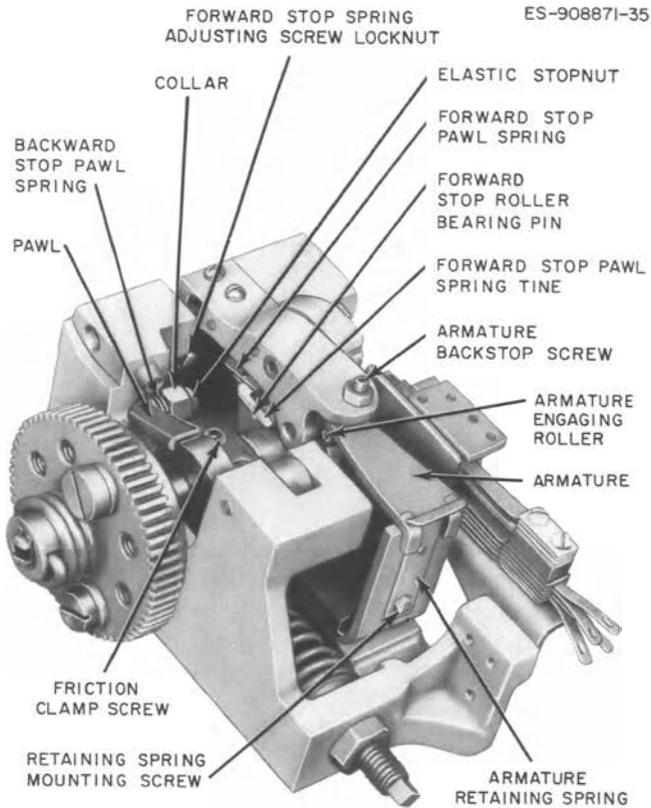
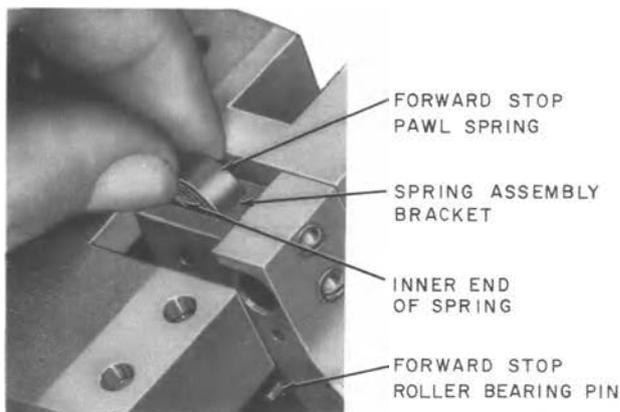
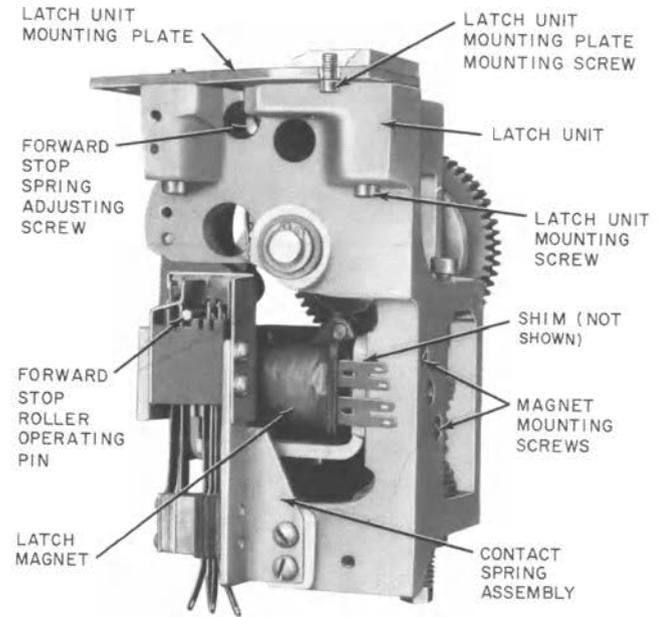

Fig. 36—Latch Unit
Fig. 37—Replacing Forward Stop Pawl Spring
Fig. 38—KS-13909 Latch Assembly (Spring Assembly Cover Removed)
3.31 Forward Stop Pawl Spring: To replace the forward stop pawl spring (Fig. 36 and 37), proceed as follows.
- (1) Remove the two drive chain guards using a hex socket screw wrench.
- (2) Mark the gear tooth of the latch and the corresponding tooth space in the latch engaging gear of the hand drive using a pencil. (The pencil marks are to aid aligning the gears when remounting the latch assembly.)
- (3) Remove the latch assembly from the perforator in accordance with 3.29 except remove the three latch assembly mounting screws instead of the latch assembly plate mounting screws.
- (4) Remove the locknut, washer, and strip from the end of the adjusting screw using the R-3193 wrench and KS-14336 screwdriver.
- (5) Remove the forward stop spring adjusting screw by sliding the screw to the right with the R-1102 spudger and then grasping the screw head with the P long-nose pliers.
- (6) Remove the screw through the circular spring adjusting screw hole provided in the latch casting as shown in Fig. 38.
- (7) Lower the forward stop pawl spring from the bracket using the P long-nose pliers.
- (8) Apply one drop of KS-7470 oil to the top of each turn of the replacement spring using the 486A oil can.
- (9) Insert the free end of the replacement spring through the opening in the assembly bracket top as shown in Fig. 37.
- (10) Push the spring into the bracket.
- (11) Tilt the free end of the spring and place the tines over forward stop roller bearing pin as shown in Fig. 36.
- (12) Position the spring in the bracket so that the inner end will slip into the slot of the adjusting screw when the screw is inserted.
- (13) Reassemble the adjusting screw, washer, strip, and locknut.
3.32 Backward Stop Pawl Spring, Collar, and Elastic Stopnut: To replace the backward stop pawl spring, collar, or stopnut (Fig. 36), proceed as follows.
3.33 Contact Spring Assembly: To replace the contact spring assembly (Fig. 38), proceed as follows.
- (1) Unsolder and tag the leads from the terminals.
- (2) Remove the out-bin in accordance with 3.45.
- (3) Remove the spring assembly mounting screws using the 4-inch E screwdriver.
- (4) Remove the cover from the replacement spring assembly using the 3-inch C screwdriver.
- (5) Substitute the replacement spring assembly and make sure that the springs are positioned with relation to the forward stop roller operating pin as shown in Fig. 38.
- (6) Insert and securely tighten the mounting screws.
- (7) Solder the leads to the proper terminals.
- (8) Check the requirements in accordance with Section 034-305-701.
- (9) Remount the cover on the spring assembly.
- (10) Remount the out-bin in accordance with 3.45.
To replace the latch magnet and associated parts (Fig. 36 and 38), proceed as follows.